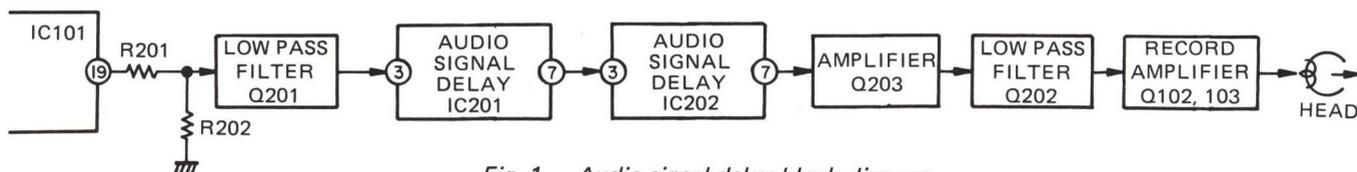

Fig. 1. Audio signal delay block diagram
Fig. 1 is a block diagram of the audio signal delay. The audio signal is output from IC101 pin (19), passes the R201, 202 attenuator and Q201 low pass filter, and is input to IC201 pin (3). The R201, 202 attenuator attenuates the signal so that it does not go over IC201 maximum input level of about -5dB.